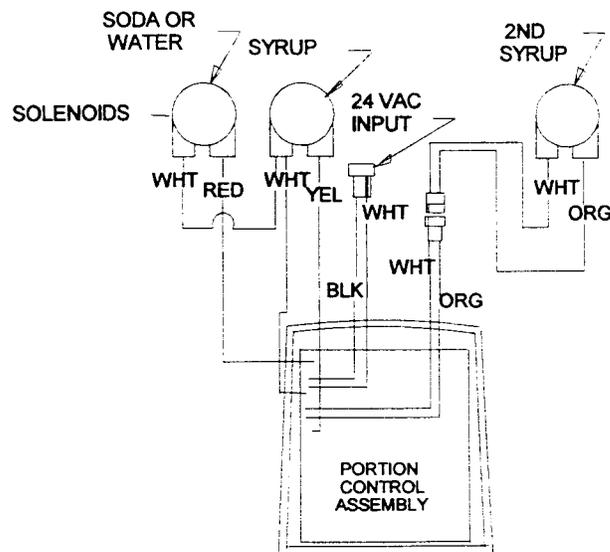

Figure 1
5. Attach the portion control wiring as shown in Figure 1.